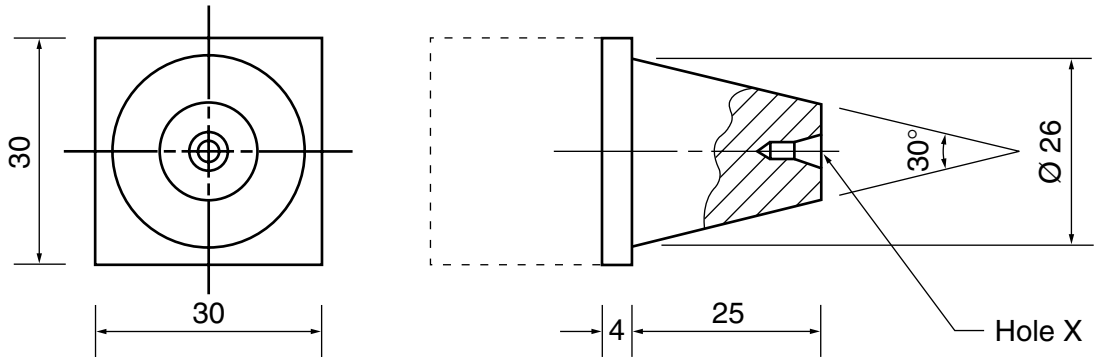

Fig. 3.1
- 3 Figs. 3.1 and 3.2 show incomplete details of a drawer handle turned from 30 mm square aluminium alloy.